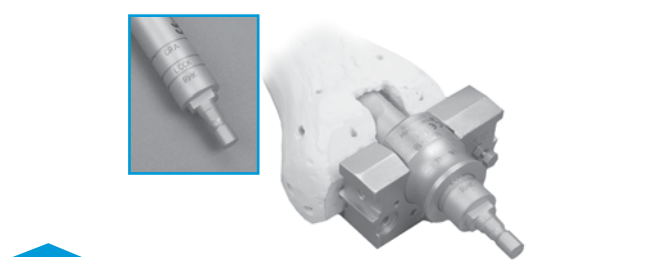

Fig. 84
- Attach the Femoral Stem Drill to a drill/driver and drill through the bushing to the third engraved line marked “RH Knee” on the drill bit (Fig. 84).